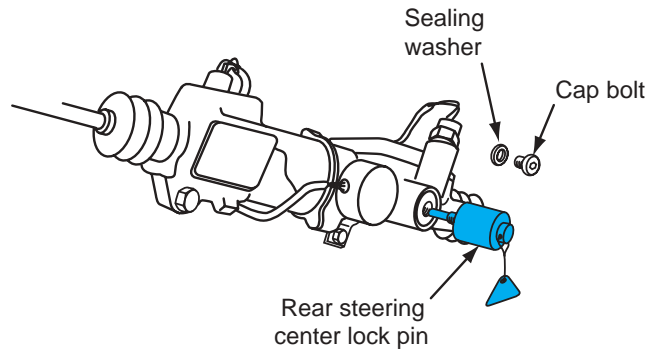

Figure 13-28 Removing the rear cap bolt and sealing washer, and installing the rear steering center lock pin.
2. Remove the rear cap bolt and sealing washer from the rear steering actuator and install the rear steering center lock pin until it bottoms in the actuator (Figure 13-28).